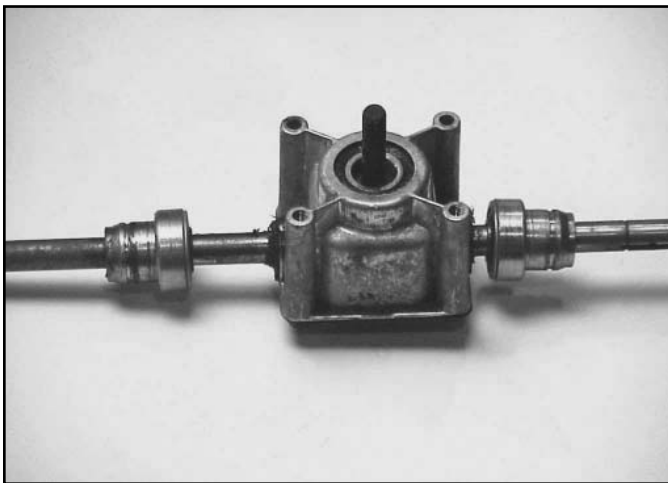

Fig 110
5. Assemble the bearings and bearing retainers; install the transmission in the housing (Fig. 110).